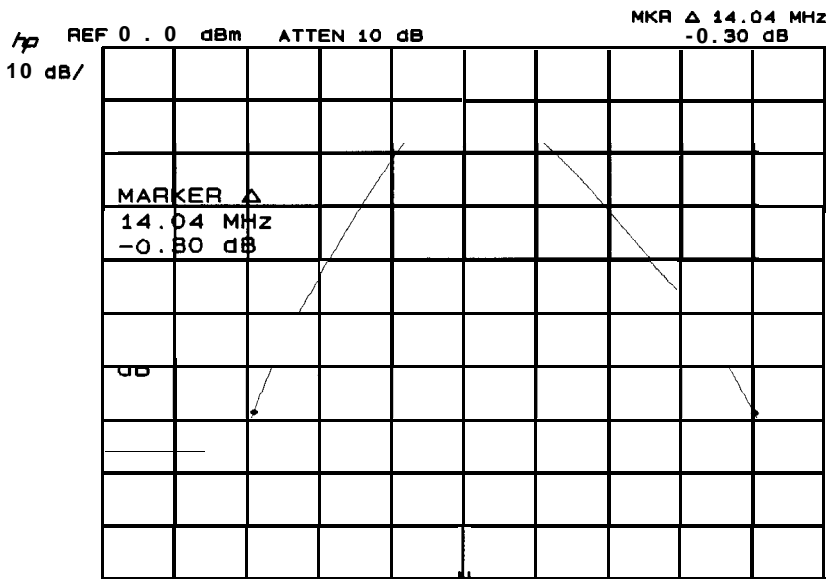

Figure 4-5. 60 dB Bandwidth Measurement
3. On the spectrum analyzer, press **MARKER NORMAL** and position the marker at the peak of the signal trace using the DATA knob. Press **MARKER Δ** and position the movable marker 60 dB down from the stationary marker on the positive going edge of the signal trace (the **MARKER Δ** amplitude readout should be -60.00 dB ±1.00 dB). It may be necessary to press **SWEEP CONT** and to adjust **CENTER FREQUENCY** so that both 60 dB points are displayed (see Figure 4-5).
5. Read the 60 dB bandwidth for the 3 MHz resolution bandwidth setting from the **MARKER** **Δ** frequency readout (see Figure 4-5) and record the value in Table 4-5.